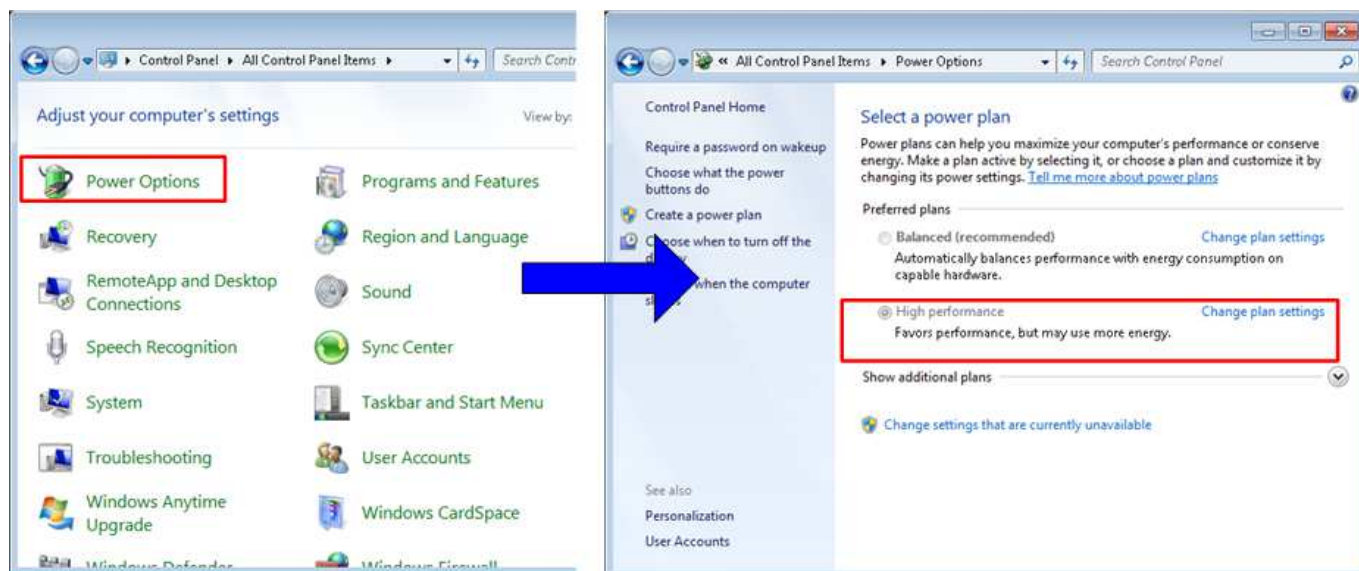

Figure 3-4 Power options
- 1) Open Control Panel and select Power Options as shown in the left window of Figure 3-4.
- 2) Change setting to High Performance as shown in the right window of Figure 3-4.